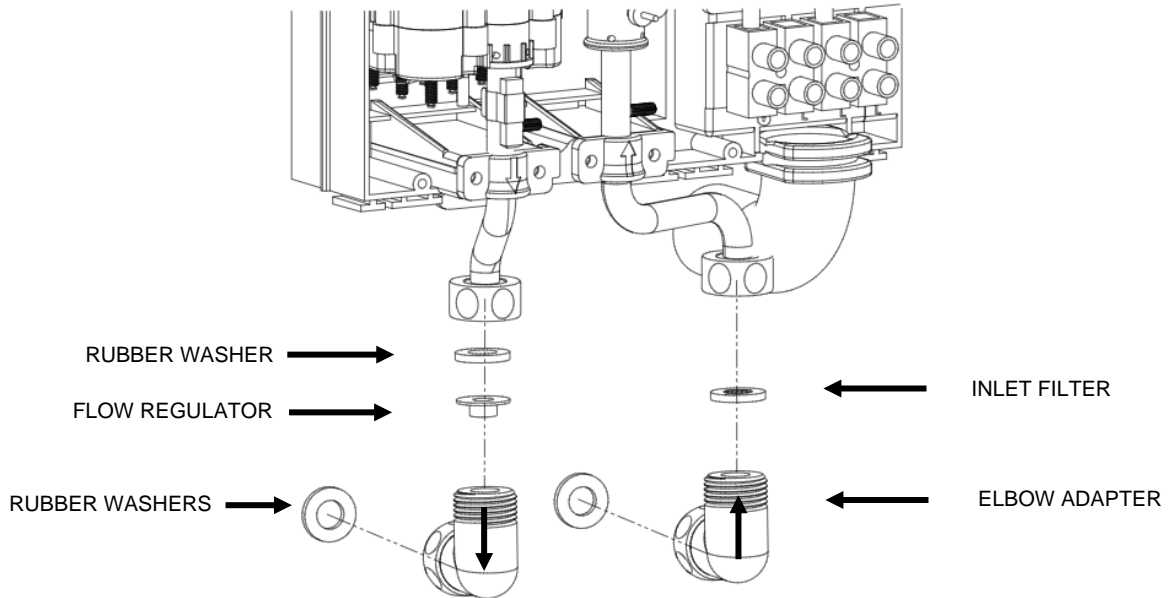
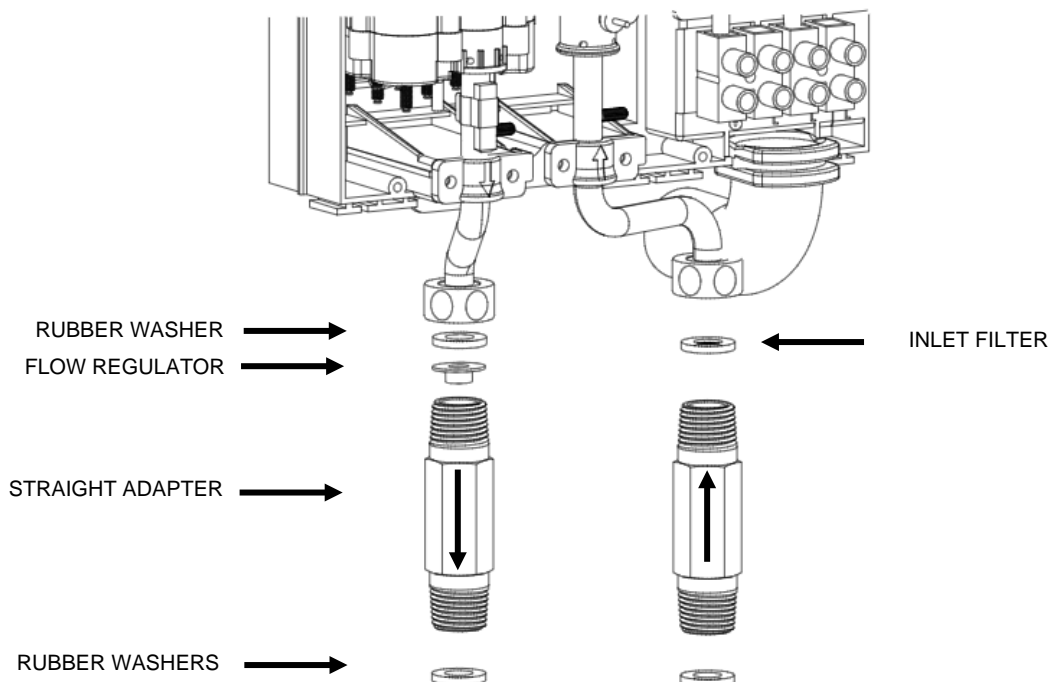

Figure 4: Concealed Entry (viewed from the front)
Figure 7: Bottom Entry (viewed from the front)
- d) Determine if connection of the plumbing and electricals will be concealed through the back of the unit or through the bottom of the unit. Refer to Figure 4 on page **22** and Figure 7 on page **23**. If plumbing connections have been roughed in, determine the position of the heater on the wall to allow fitment in accordance with the desired plumbing connection method.